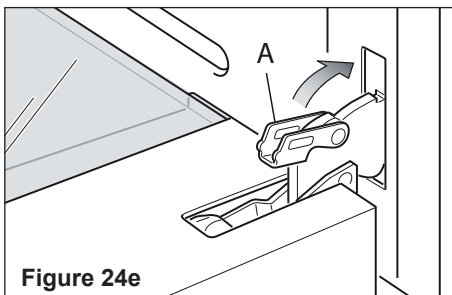

Figure 24e
- Unlock the oven door by opening it completely and closing the lever "A" on the left and right hinges (fig. 24e).